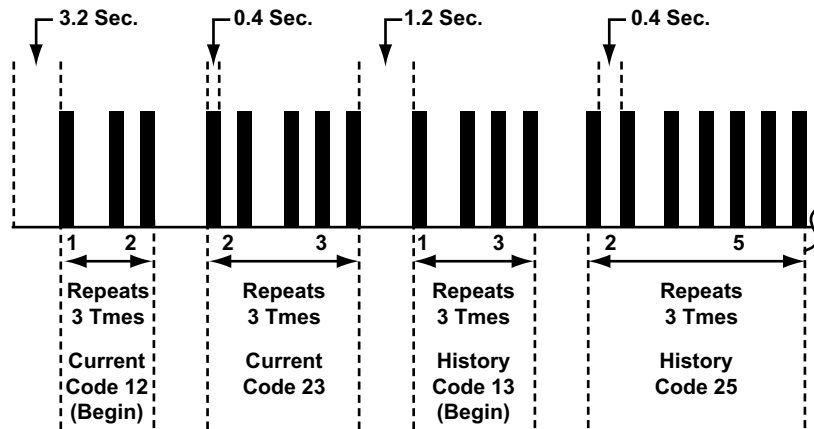

Figure 4-24 Acura ABS Code Type 5a
- Type 5a, see Figure 4-24 and Table 4-10 on page 27